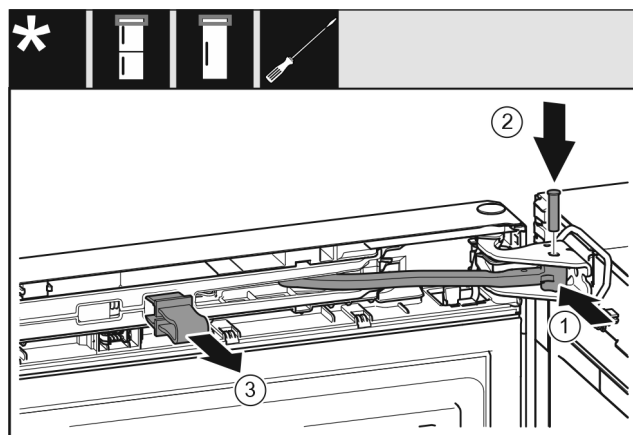

Fig. 53
- ▶ Turn the joint *Fig. 53 (1)* in the bearing block.
- ▶ Insert the bolt *Fig. 53 (2)* into the bearing bracket and joint. Ensure that the latching cam is in the groove properly.
- ▶ Remove the safeguard *Fig. 53 (3)*.